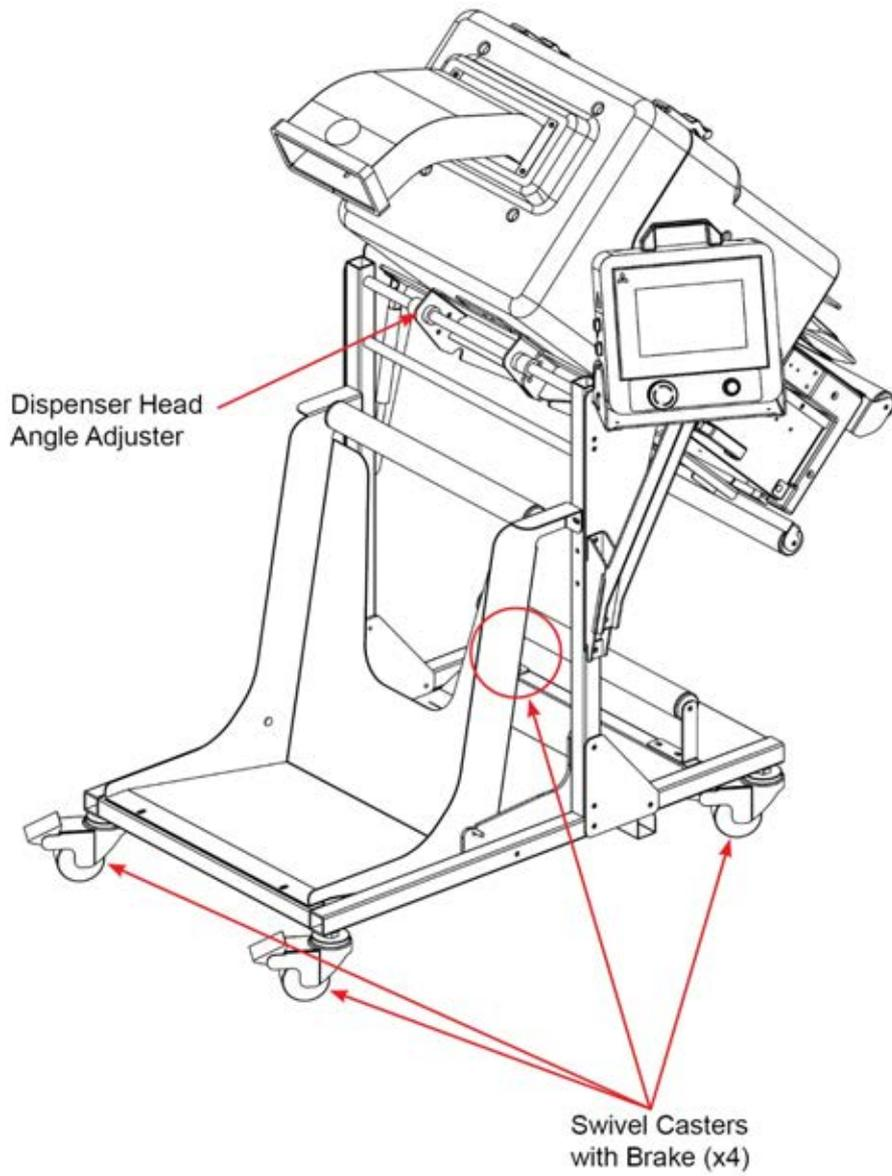

Figure 13 Table-Side Stand
1. Make sure that the stand is positioned on a level surface and lock the brakes of the four swivel casters (refer to Figure 13).